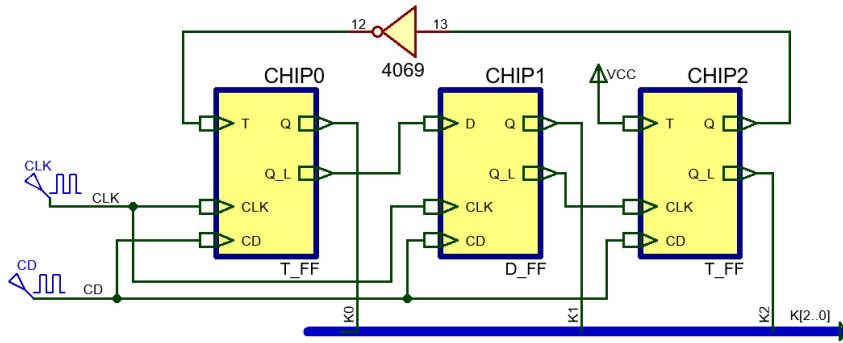

Fig. 1. Circuit based on 1-bit memory cells and combinational circuits.
1. Analyse the circuit in Fig. 1 to determine the output **K(2..0)** completing an example timing diagram.